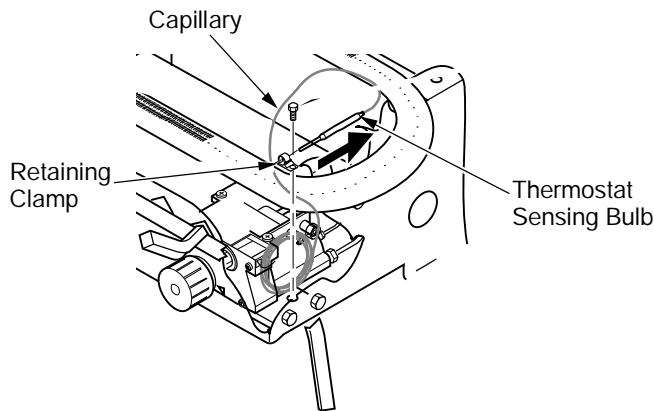

Figure 10 - Removing Thermostat Sensing Bulb
2. Carefully slide the thermostat sensing bulb out of the retaining clamp (see Figure 10).